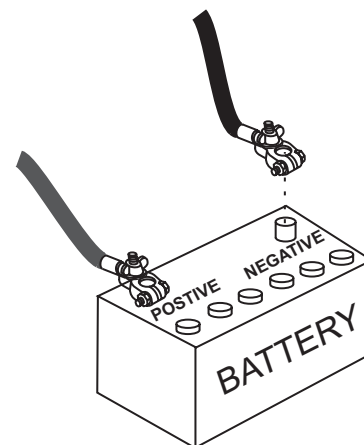

Figure 14. Battery Connections
3. Connect the negative battery cable (BLACK) to the negative post on the battery (Figure 14).